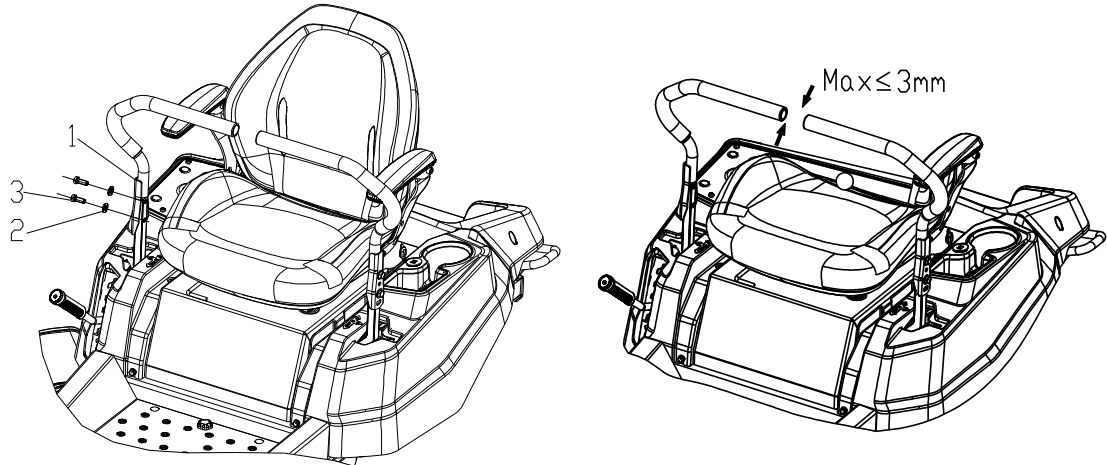

Fig. 1
- After installation, the levers on two sides should be aligned with one another at both the head and the tail, with no obvious misalignment. The maximum longitudinal distance between the centers of the two control levers should not exceed 3mm (as shown in Fig.1 above).